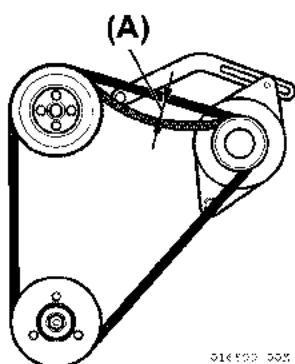

Figure 7-38
3. Check belt tension by pressing on the belt (**Figure 7-38, (A)**). Allowable belt deflection is shown below. If the belt is loose, it must be replaced.